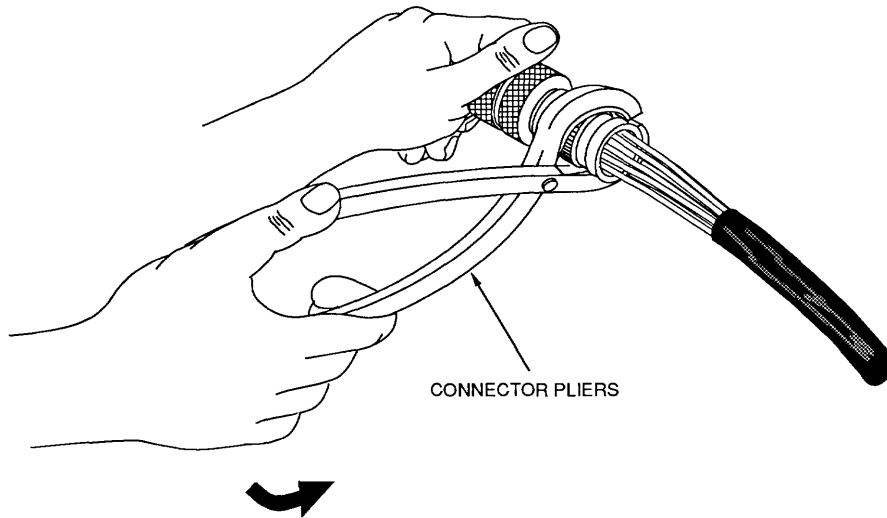
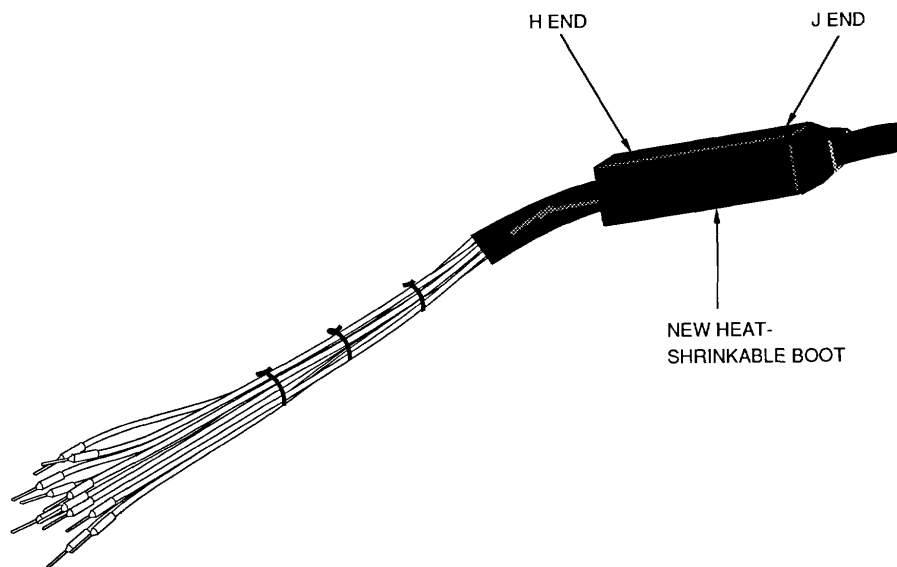

Figure 15. Removing Adapter or Coupling Ring
Figure 16. Installing New Boot
- e. Using connector pliers with plastic jaws turn adapter or coupling ring counterclockwise and remove (Figure 15).
- h. Remove adapter (Figure 15).
(1) For adapters without shields simply remove adapter.
(2) For shielded adapters separate adapter shield from cable shield and remove adapter from cable.
(3) If shields are tied together with lacing cord cut cord and pull adapter from cable.
(4) If shields are tied together with wire whipping unsolder and unwrap wire.
(5) If shields are soldered together use infrared or hot air heating tool to melt solder while carefully pulling adapter.
a. Slide new heat-shrinkable boot back over cable, ensure the end marked J goes on first and the end marked H goes toward adapter (Figure 16).